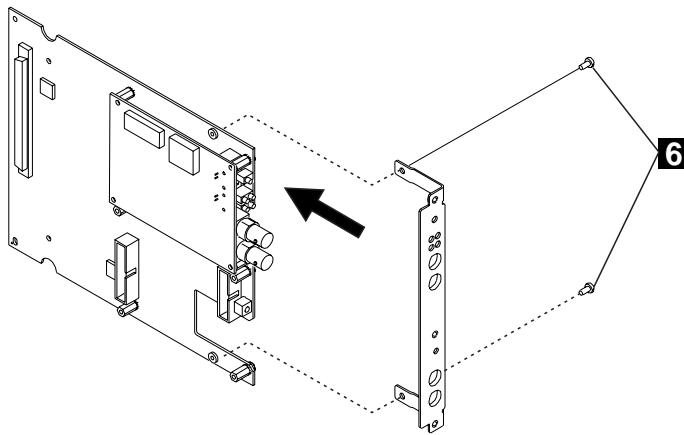

Figure 13. Attaching the Faceplate Bracket
- **7** Attach the faceplate bracket to the motherboard using the two screws (**6** in Figure 13) from the dummy bracket.